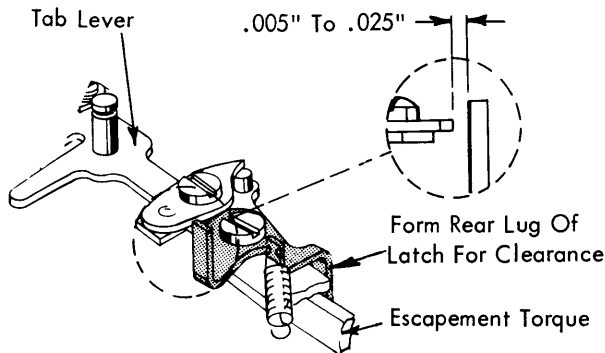

FIGURE 168. Tab Interlock Adjustment
7. **Tab Interlock** - With the carrier return clutch latched, the escapement torque bar should rotate the tab latch away from the tab lever pawl by $.005"$ to $.025"$ (Fig. 168). Form the lug on the tab latch that extends down behind the escapement torque bar.